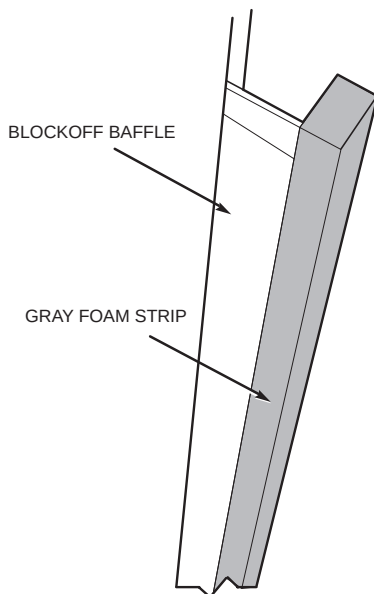

Fig. 31 — Adding Foam Strip to Blockoff Baffle
8. Attach gray foam strip (provided) to block-off baffle on outer face of flange. See Fig. 31.